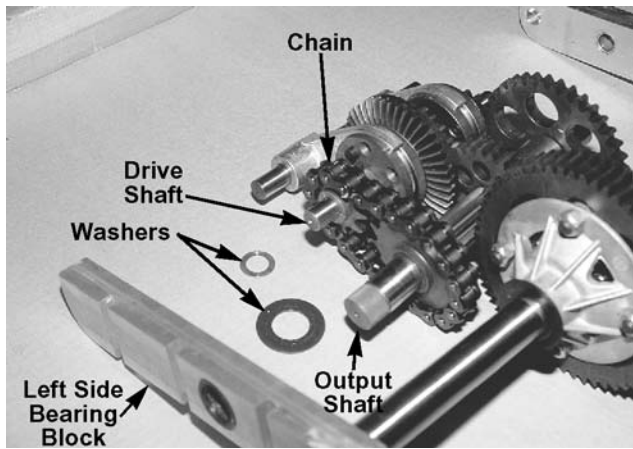

Figure 5-90.
50. Slide the left hand bearing block over the output shaft and drive shaft. Being cautious with the seal of the output shaft. See Figure 5-90.